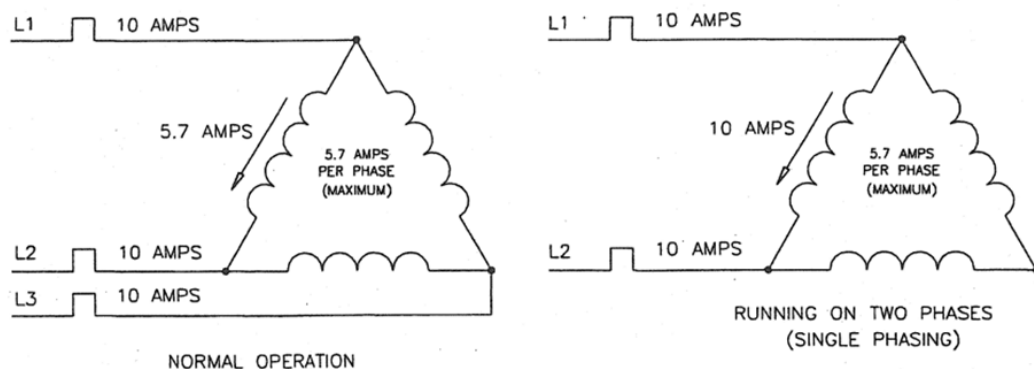

Figure 3 - Phase and line currents in a delta connected motor.
26. Under normal operating conditions a three phase delta connected motor with a full load current rating of 10 amps would draw a full load line current of 10 amps and the correct setting for the overloads would be 10 amps. However, since the coil current in the motor is only 57% of the line current (Phase I = Line I/√3 in delta), the maximum permissible current in each phase would be 5.7 amps. This relationship is shown in Figure 3.